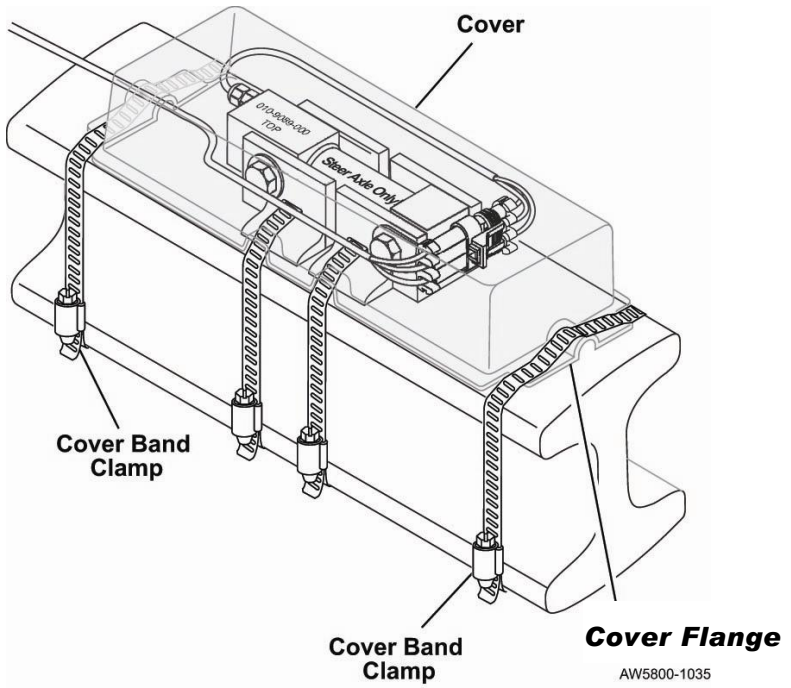

Figure 16. Attaching Band Clamps to Cover
3. Very loosely install band clamps (p/n: 139-0011-000) around the steer axle on both ends of the deflection sensor cover. Ensure that the band clamp on each side circles both the steer axle and the cover flange. See Figure 16.